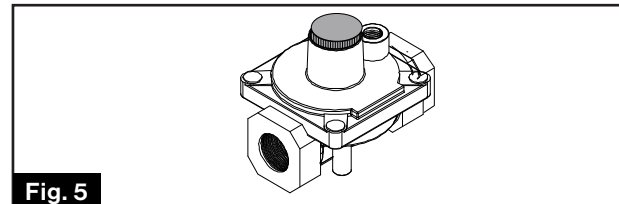

Fig. 5
- Screw the regulator cap back into the regulator and re-attach the regulator to the nipple and flare union. (Fig. 5)